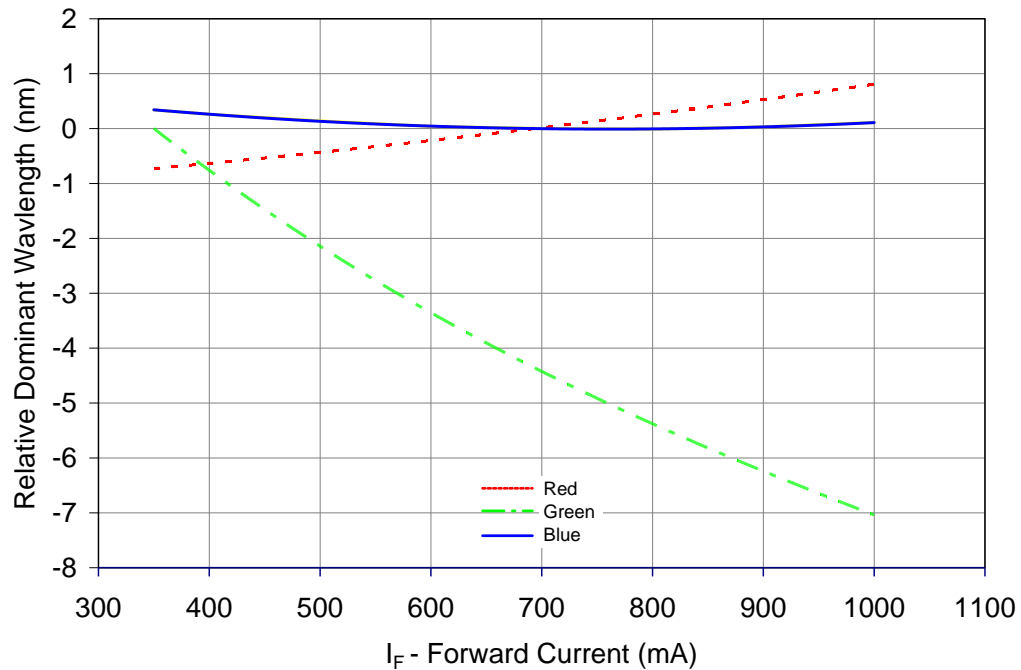

Figure 6: Typical dominant wavelength shift vs. forward current @ $T_C = 25^\circ\text{C}$.
- Refer to Figure 6 for typical dominant wavelength shift over forward current.
Notes for Figure 6: